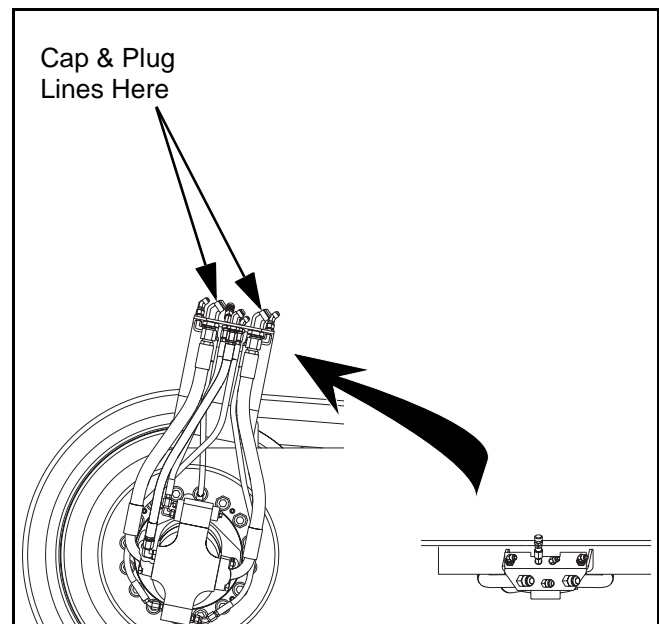

Figure 5 - 4 Travel Motor Bulkhead
- 1) Disconnect, cap and plug travel pump high pressure lines at motor bulkhead. (Figure 5 - 4)
- 2) Install two 10,000 PSI pressure gauges in the high pressure gauge ports. (Figure 5 - 5)